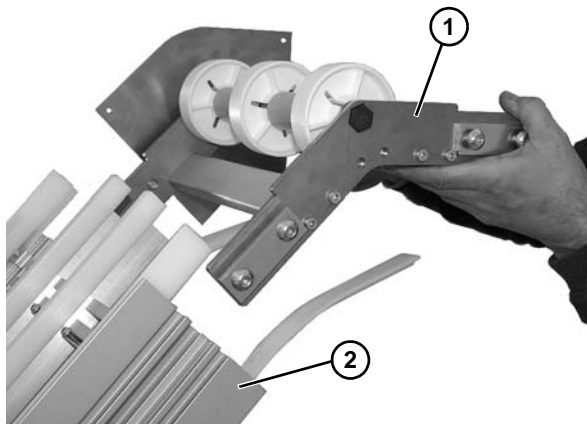

Figure 112
9. Remove upper knuckle assembly (**Figure 112, item 1**), from frame (**Figure 112, item 2**).